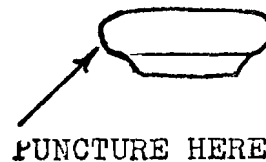

Figure 29
4. Puncture the pad (Figure 29) with a needle or pin (white skin pads only) to let the heated air escape.